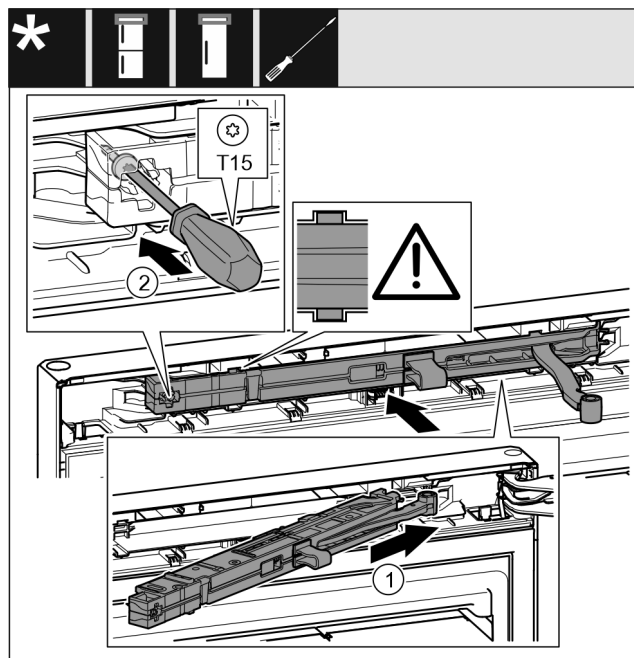

Fig. 55
- ▶ Slide the closing damper unit Fig. 55 (1) on the swap bearing block side up to the stop diagonally into the recess.
- ▶ Tighten the screw Fig. 55 (2) with a screwdriver.